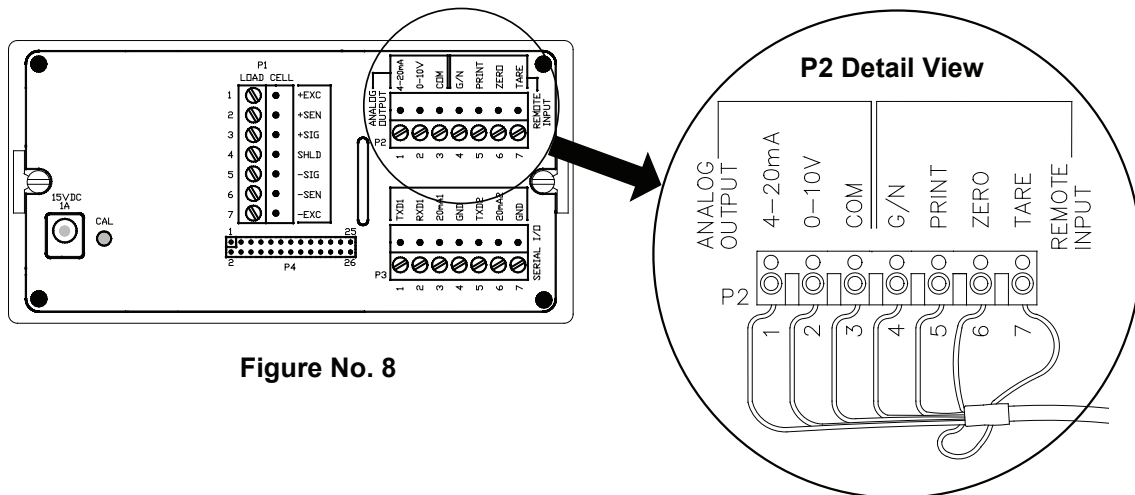

Figure No. 8
1. The wires from the external ANALOG OUTPUT cable are connected to the P2 terminal block on the rear panel of the indicator. Refer to Figure No. 8 for the location of P2.